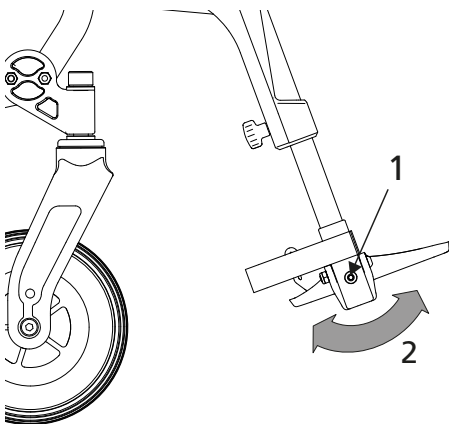

fig.21
1. loosen the screw (1, Fig.21) a few turns. Now you can set the desired foot plate angle (2, Fig. 21).
2. Then tighten the screws (1) again.